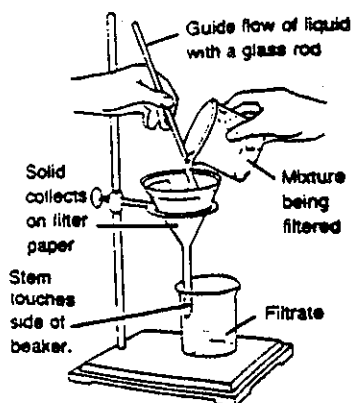

Figure 3. Filtration assembly.
3. Place a beaker beneath the funnel to collect the filtrate. The tip of the funnel should touch the inside surface of the beaker and extend about one inch below the rim (Figure 3).